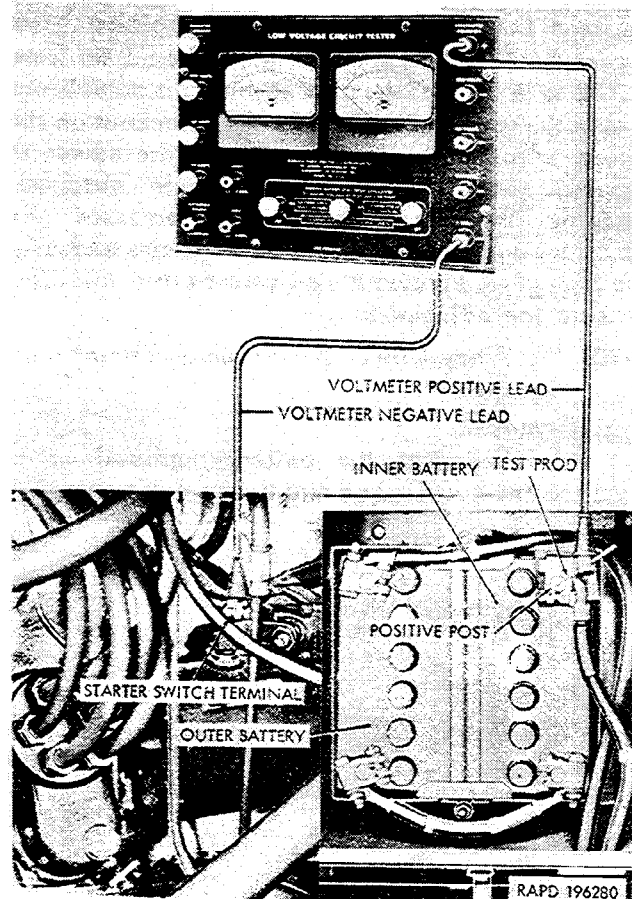

Figure 2-27. Checking battery-to-starter cable resistance.
e. *Check Battery-to-Starter Cable Resistance (Fig. 2-27).* Check for excessive resistance (voltage drop in the battery-to-starter cable to determine cause of malfunction of the starting system. The engine must be at normal operating temperature.